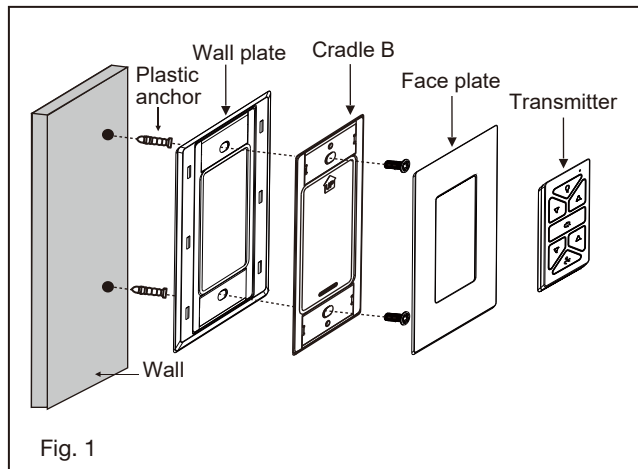

Fig. 1
- 5 While holding the Lamp shade under your fan. (Fig. 1)
- 6 Raise the Lamp shade against the fan and turn clockwise until snug, DO NOT OVERTIGHTEN. (Fig. 1)
- 1 Select a desired location. Use the wall plate to mark the location of the mounting holes. Plastic wall anchors or mounting screws are needed for this application. (Fig. 1)